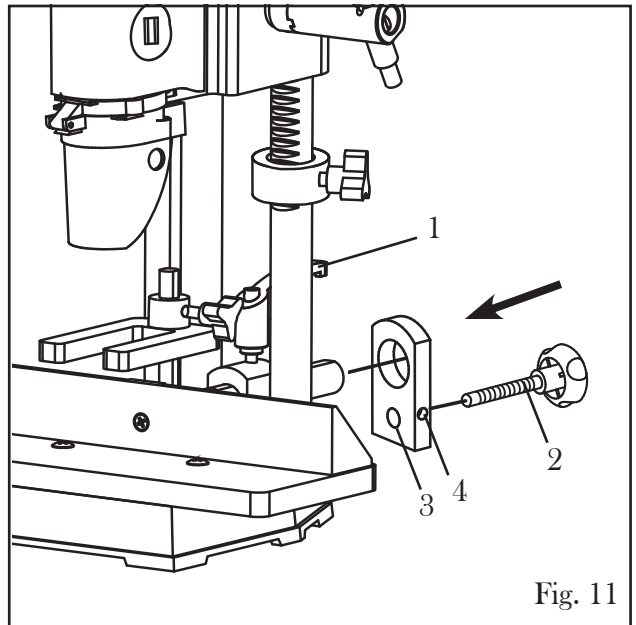

Fig. 11
ADJUSTING THE FENCE (Fig. 11)
1. Loosen the fence lock handle (Fig. 11 - 1).
3. Thread the micro-adjustment knob (Fig. 11 - 2) all the way into the small hole of the micro-adjustment plate (Fig. 11 - 3); this will allow sufficient distance between the plate and the guide block for adjustments.
5. Using the included hex wrench, tighten the set screw (Fig. 11 - 4) on the side of the micro-adjustment plate to secure it to the fence rod.